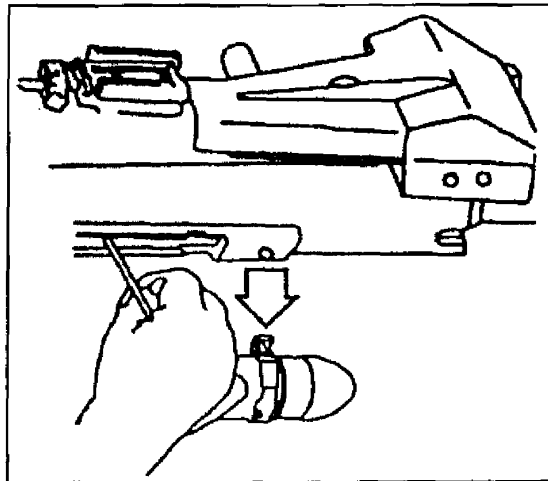

Figure 071-030-0006-1. Removal of Round or Spent Case
- a. Open the top cover. Check for rounds in the feeder. If you find any rounds in the feeder, perform the following actions (figure 071-030-0006-2).
- (1) With one hand, reach beneath the feeder. Press the primary and secondary positioning pawls at the same time.
- (2) At the same time, slide the linked rounds out of the feeder and feed throat.